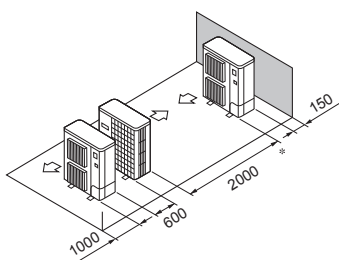

Fig. 2-13
- ⑤ Single parallel unit arrangement (Fig. 2-13)